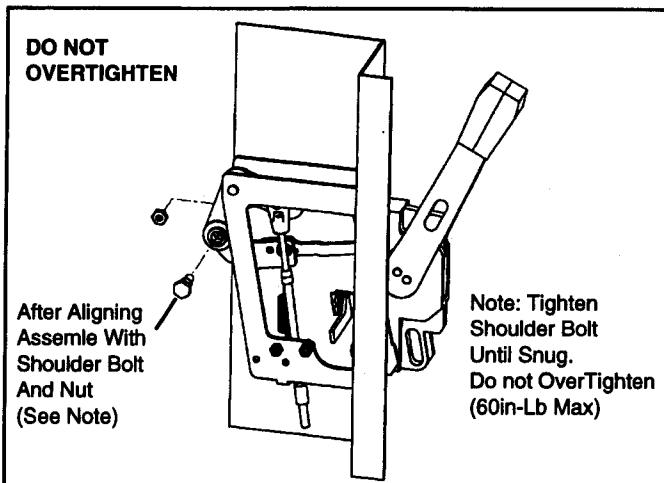

Fig. 1-7 Assembly of Adapter Link to Bell Crank Using Shoulder Bolt
6. Align adapter link with the bell crank. Attach bell crank to adapter link with shoulder bolt and nut. Fasten securely ... Do not overtighten. See Fig. 1-7.